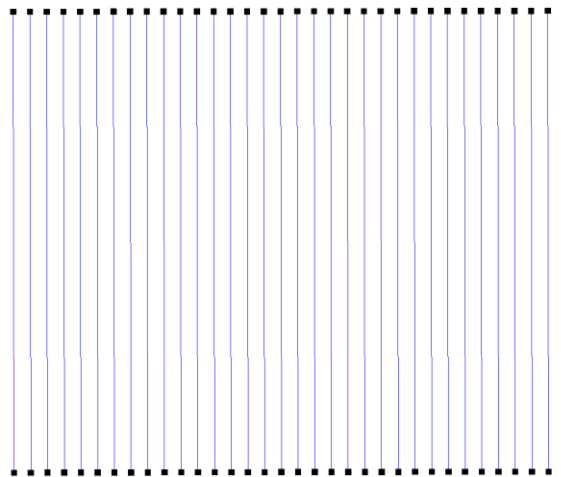

Figure 4-25
6. Now move the cursor to the bottom left of the screen and draw the outline of the block: left-click then draw a line upwards for **165ft (50m)** as seen on the status bar d=165 (50) (approx.). Left-click the mouse to place the line at this point, and then continue drawing the block area by going **200ft (60m)** to the right and left-click. Now proceed downwards for **165ft (50m)** left-click then *Right-click/Close* after the third point has been placed. This will close the lasso, and complete the tape block. The block will automatically fill with tapes **6ft (2m)** apart. Select *View/Zoom All*. The block should look similar to Figure 4-25.